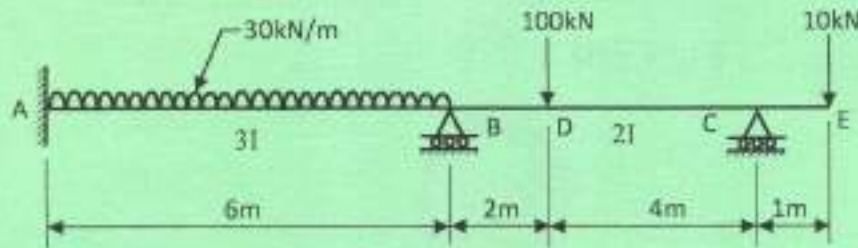

Figure 1
1. Using the three moments theorem, analyse the beam shown in figure 1 and hence sketch the shear force and bending moment diagrams indicating the values at all critical points. (20 marks)